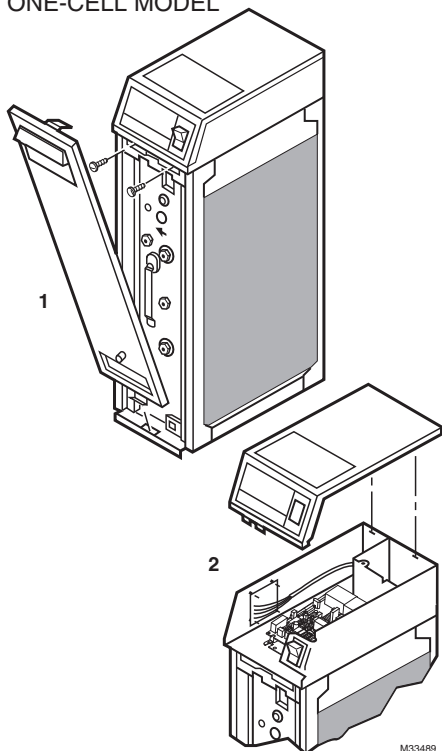

Fig. 1. Power supply location on F50E Two-Cell Air Cleaners.
- ☐ Open access door or grille. See Fig. 1 through 5.